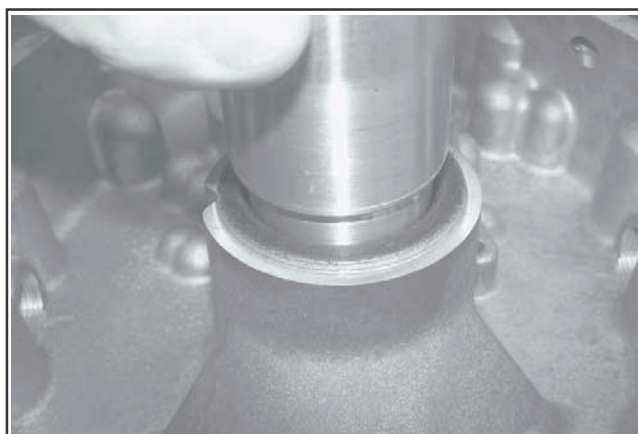
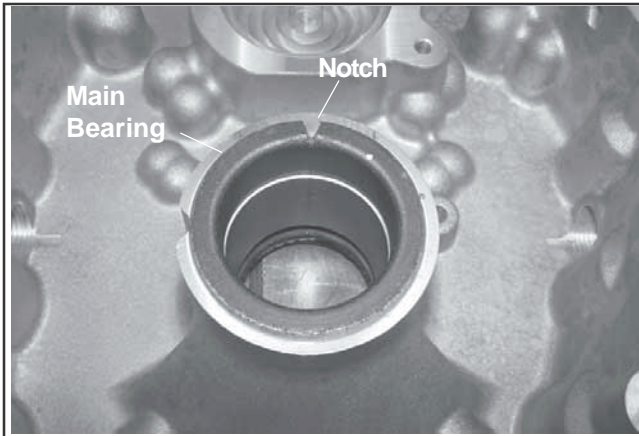

Figure 10-5. Installing Main Bearing.
Figure 10-6. Installed Main Bearing.
2. Press the flywheel side main bearing in place with the notch oriented in the 12 o'clock position using an arbor press and driver. See Figure 10-5. Make sure the bearing is fully seated against the flange and the oil feed hole is open in the crankcase. See Figure 10-6.